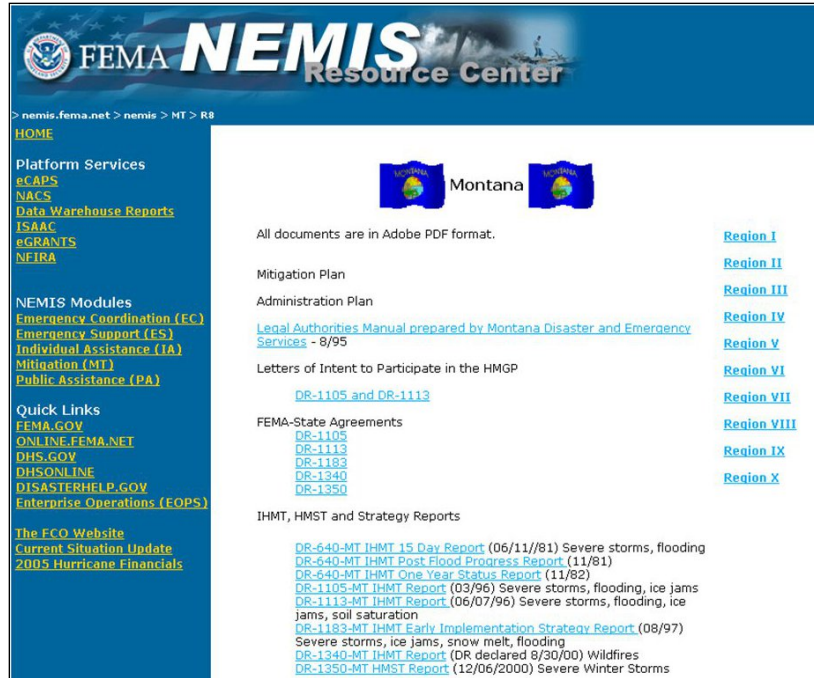

Figure 2-4: State Recipient Montana Reference Documents
4. Click on a Recipient link. The list of reference documents for that Recipient is displayed (Figure 2-4).